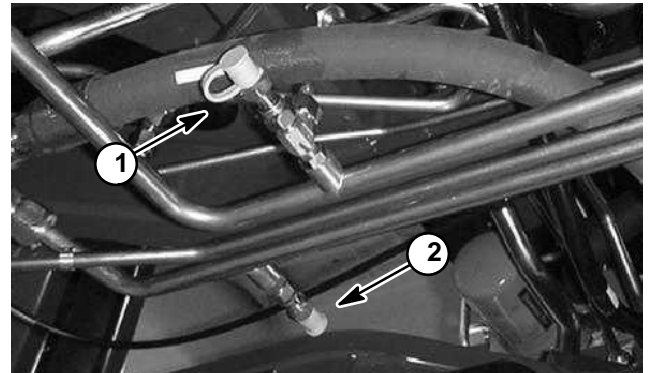

Figure 34
1. Make sure hydraulic oil is at normal operating temperature by operating the machine for approximately ten (10) minutes. Make sure the hydraulic tank is full.
3. Connect a 10,000 PSI (700 bar) pressure gauge to traction circuit test port for function to be checked (forward or reverse) (Fig. 34). Test ports are located on hydraulic lines toward the front of machine. Forward traction port faces the front and reverse port faces rearward.